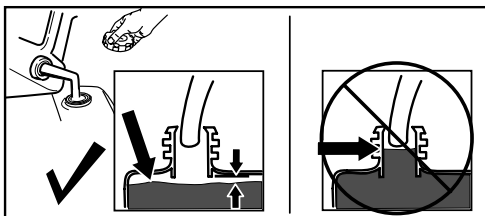

Figure 14
Fill the fuel tank as shown in Figure 14; do not fill above the bottom of the fuel tank neck.
- Remove an obstruction from the discharge chute; refer to Clearing a Clogged Discharge Chute \(page 17\). Use the snow-cleanout tool (Figure 14), not your hands, to remove an obstruction from the discharge chute.